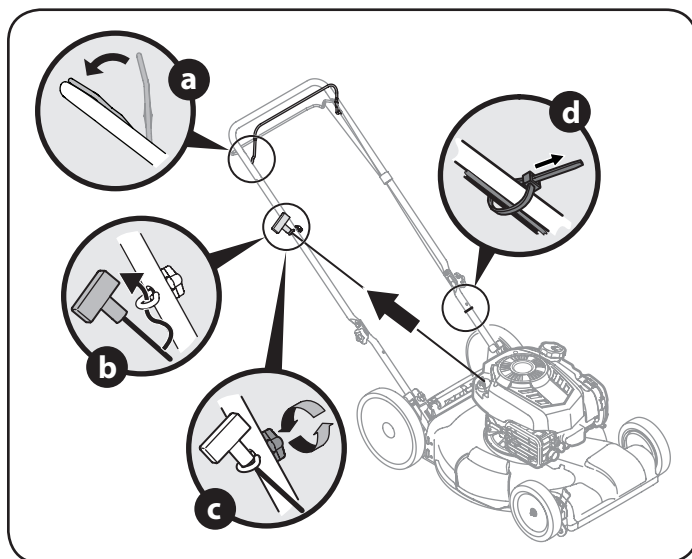

Figure 6
4. The rope guide is attached to the right side of the upper handle. Loosen the wing knob which secures the rope guide. Refer to Figure 6.
- Slowly pull starter rope handle from engine and slip starter rope into the rope guide. See Figure 6.